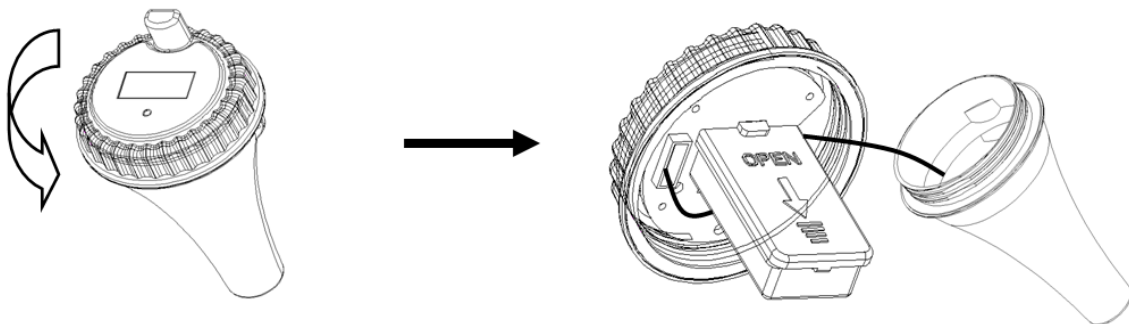

Figure 1
1. Twist off the transmitter cover (counterclockwise), as shown in Figure 1. Be careful not to stress the sensor wire.